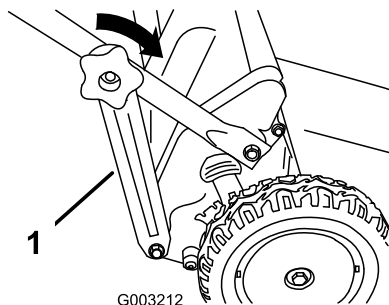

Figure 18
3. Install the lower handle knobs and tighten the knobs as tight as you can by hand (Figure 18).